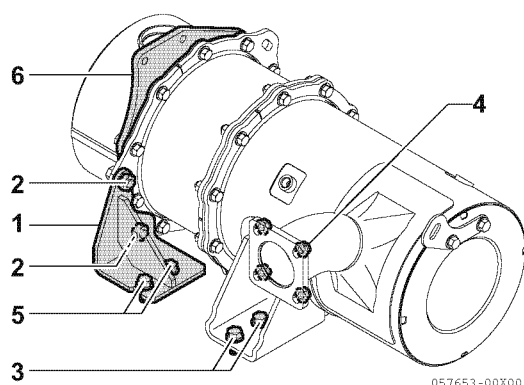

Figure 13-28
- First, slightly loosen the flange bolts (2 pcs.) (**Figure 13-28, (2)**) that attach the DPF stay (**Figure 13-28, (1)**) and the stiffener so that these have some play.
- Temporarily tighten the DPF assembly central stay M10 bolts (2 pcs.) (**Figure 13-28, (3)**).
- Seat the exhaust manifold flange (**Figure 13-28, (4)**) using M8 flange nuts (4 pcs.), and temporarily tighten.
- Fully tighten the central stay M10 bolts (**Figure 13-28, (3)**).
- Fully tighten the M10 flange bolts (2 pcs.) (**Figure 13-28, (5)**) of the DPF stay on the flywheel housing side.
- Fully tighten the DPF stay M8 flange bolts (2 pcs.) (**Figure 13-28, (2)**).